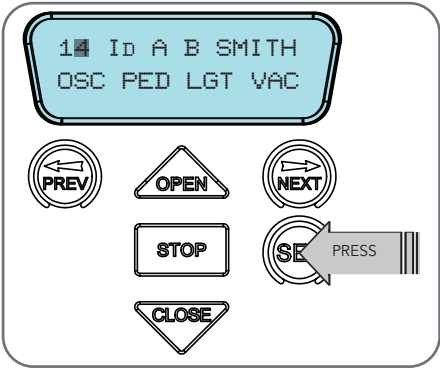

Fig F.3
- The example in (Fig. F.3) shows that PED is assigned to the transmitter button two.